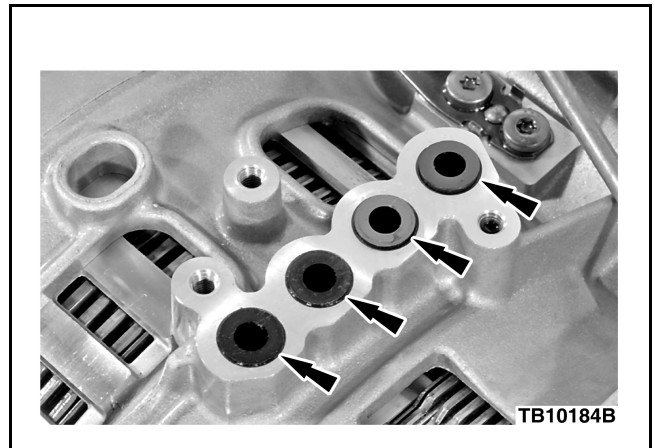

Figure 9 - Article 12-11-14
- a. Verify clutch feed tubes are positioned correctly. (Figure 9)